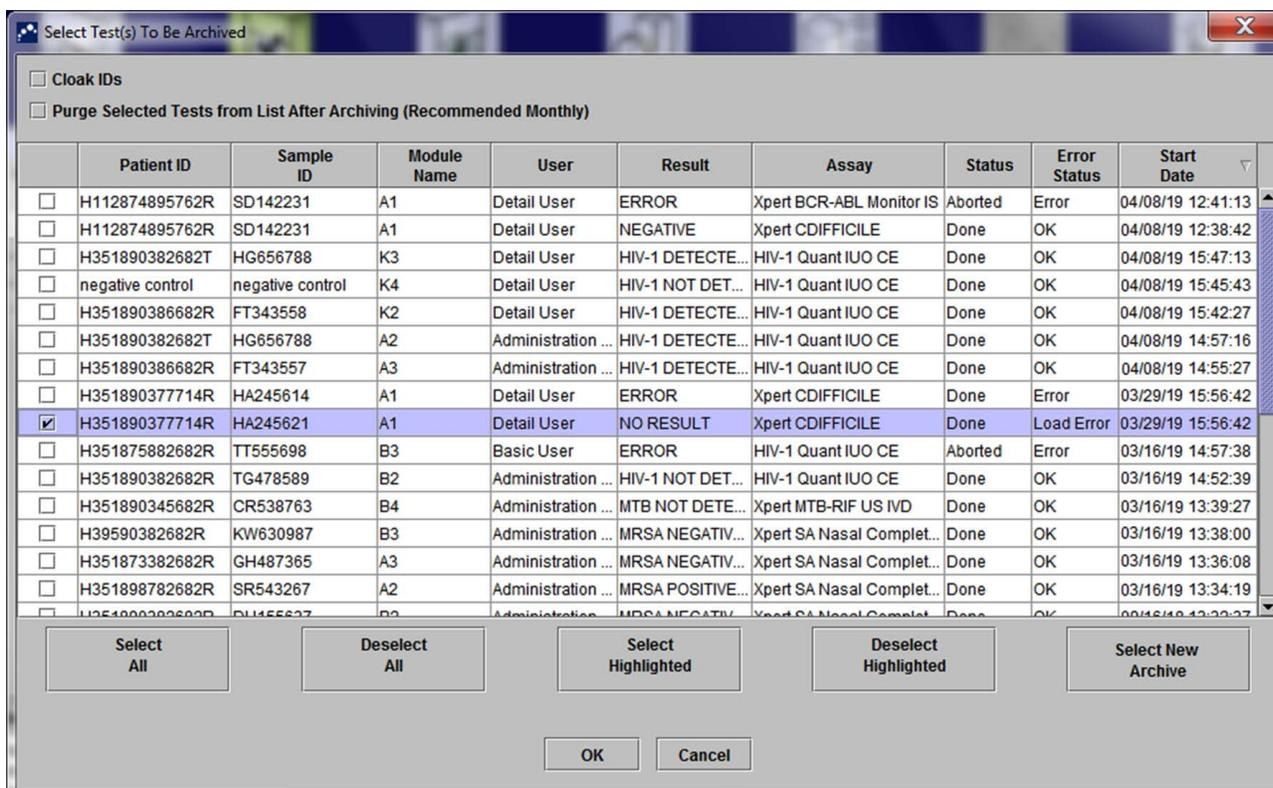

**Figure 2-97. Test Archive Reminder Dialog Box**
If an archive is not overdue, or if an archive setting in Figure 2-79 is **not** selected, Figure 2-97 will not appear, and you can skip directly to Section 2.17.1.2.
If an archive is overdue, the Test Archive Reminder dialog box will appear (see Figure 2-97).
- If you do not want to archive, click **No** in the Test Archive Reminder dialog box (see Figure 2-97). Continue the shutdown sequence without archiving, in Section 2.17.1.2.
- If you would like to archive, click **Yes** in the Test Archive Reminder dialog box (see Figure 2-97) to continue the shutdown sequence with archiving. The Select Test(s) To Be Archived screen appears. See Figure 2-98.